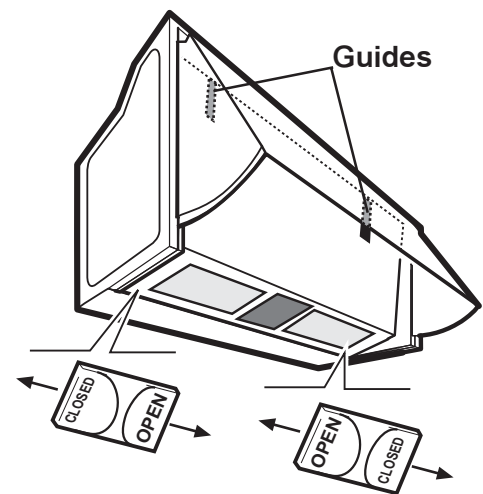

Fig. 5a - EFI 635
- Move the two sliders towards the centre (in the "OPEN" direction) and release the grille downwards. **Fig. 5a**.